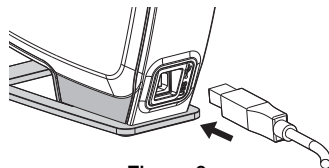

Figure 6
- 1 Plug the USB cable into the USB port on the back of the label maker. See Figure 6.